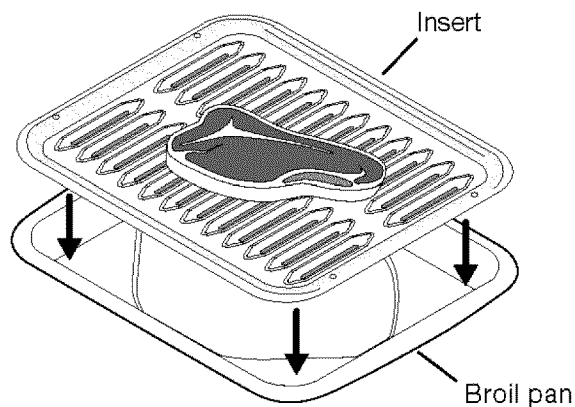

Fig. 1
- Use the recommended pans and oven rack positions for the type of meat being prepared- *p.23 Figs. 1, 2 & 3-*
The broil pan insert (if equipped) contains slots that allows grease from the meat to drain into the broil pan. Place prepared meat on broil pan insert and then place onto broiler pan as shown-*Fig. 1*.